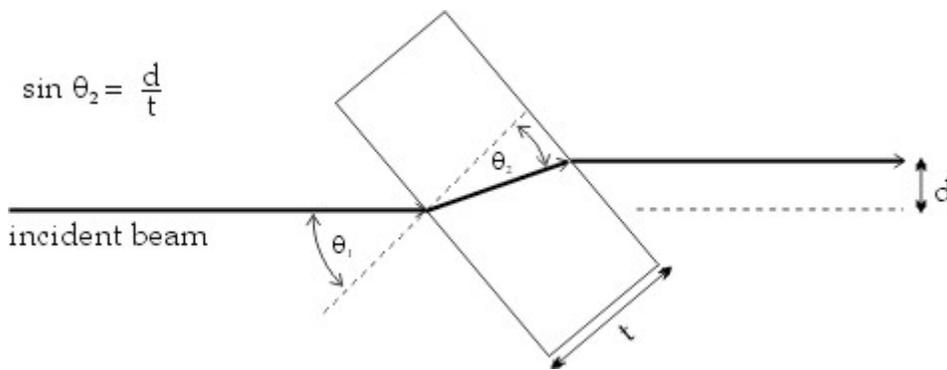

Fig. 4. Refraction by a plate. Note that in Experiment B we assumed that $\sin \theta_2 \approx d/t$.
v) Rotate the table and record what happens to the previously centered beam. Is the incident ray refracted toward or away from the normal to the glass? Figure 4 shows how to calculate θ_2 and next the index of refraction given the angle of rotation, θ_1 , and the displacement of the image, d . Using this method, a large error is introduced since the definition $\sin \theta_2 = d/t$ is correct only for a right triangle, but the triangle formed by the refracted beam, glass surface and the normal is not a right triangle.